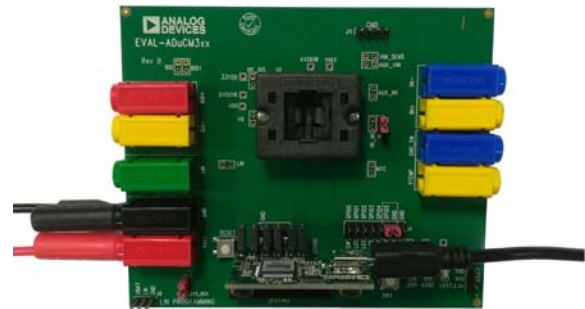

Figure 4. Mini Link Debugger/Programmer Connection
2. Connect the debugger/programmer, noting the proper orientation, as shown in Figure 4.
J2	J2 is the SWD programming interface. Check orientation with Figure 4.